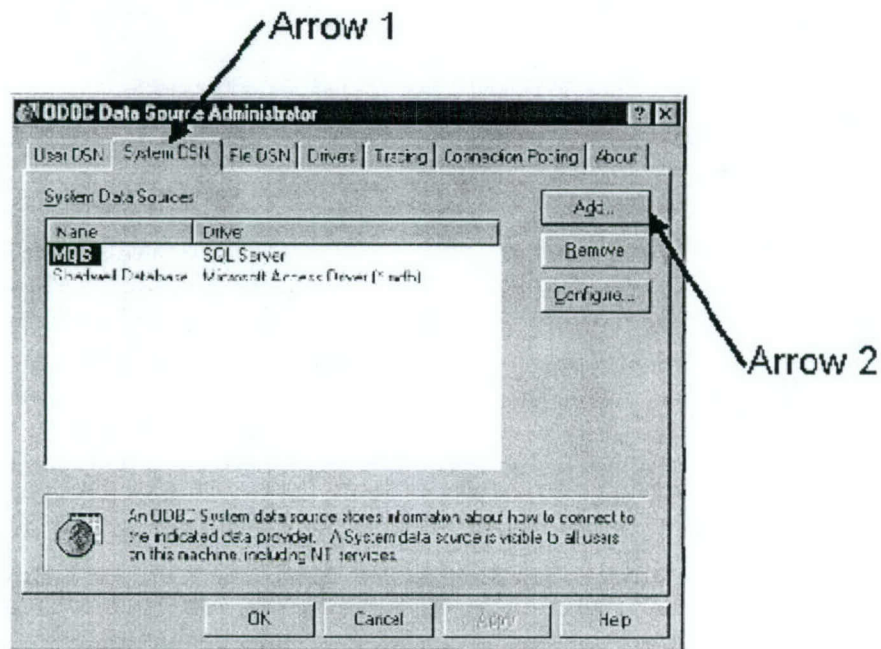

Figure B-1. ODBC Data Source Administrator Window
4. Select the "System DSN" tab at the top of the ODBC Data Source Administrator Window (Figure B-1 – Arrow 1)
5. Click the "Add" button. (Figure B-1 – Arrow 2)